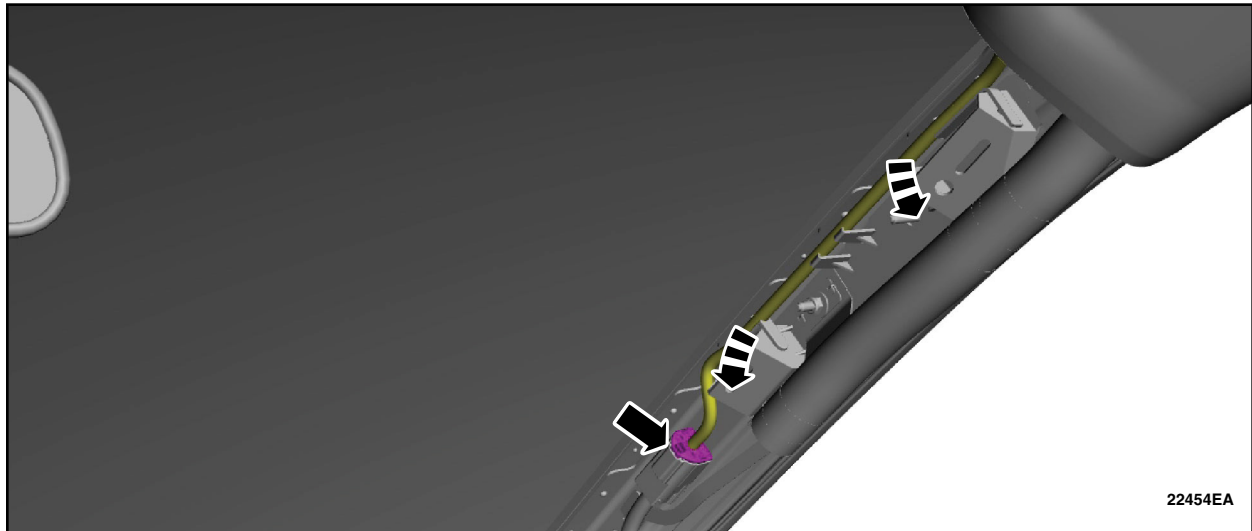

FIGURE 13
16. On the RH side disconnect the headliner wiring harness electrical connector, release the headliner wiring harness from the A-pillar and position the headliner wiring harness aside. See Figure 13.